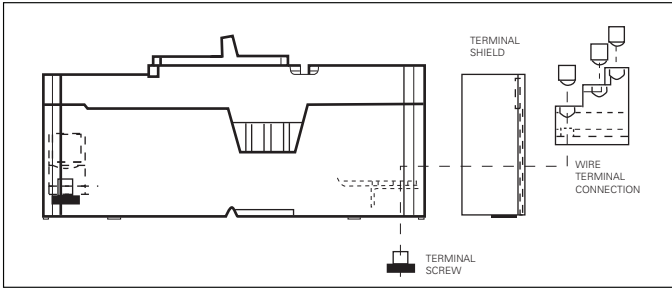

Fig. 1 Typical K-Frame Circuit Breaker Installation
If circuit breaker is installed in equipment, it **MUST** be removed from equipment for installation of this kit. This kit is intended for use **ONLY** on the **LOAD END** of the circuit breaker. See Figure 1.
2. Install terminal to each pole with provided mounting screw as shown in Figure 1. Torque mounting screw to 72-96 lb-in (8.1-10.9 Nm).
3. Install molded insulator to the breaker, as shown in Figure 1.